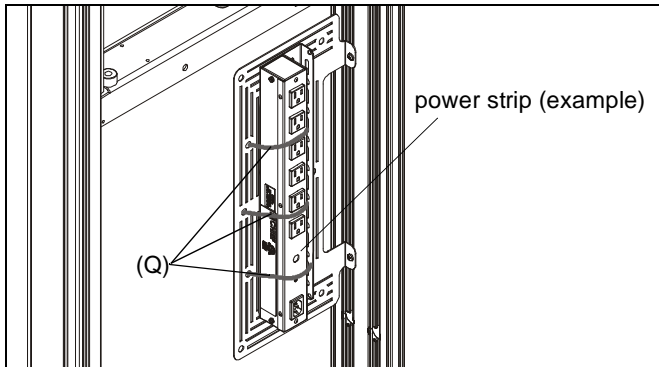

Figure 7
**WARNING:** Exceeding the weight capacity can result in serious personal injury or damage to equipment! It is the installer's responsibility to make sure the combined weight of all accessories and components installed to the component bracket (C) does not exceed 10 lbs (4.54 kg). Exceeding the weight capacity may result in damage to the equipment or components!
5. Install components to component bracket as desired using cable ties (Q) or screws. (See Figure 7)